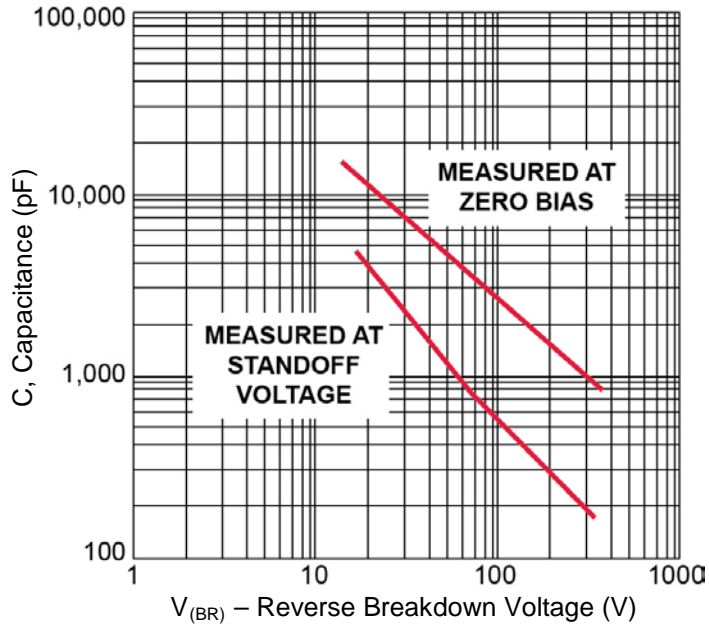

**FIGURE 1**
- With impulse repetition rate (duty factor) of 0.01 % or less (also Figures 1 and 2).